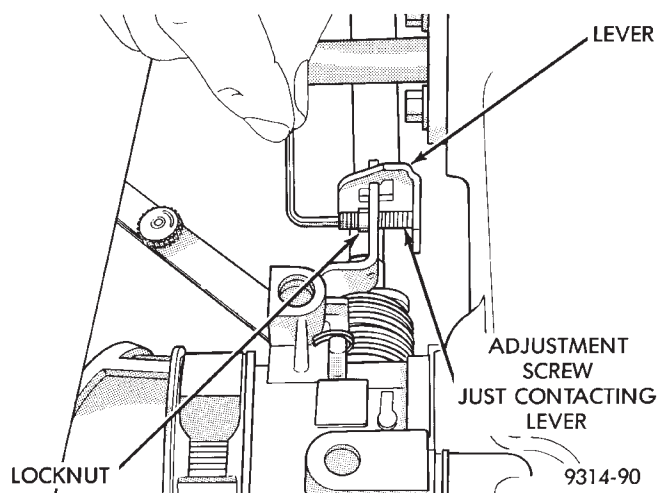
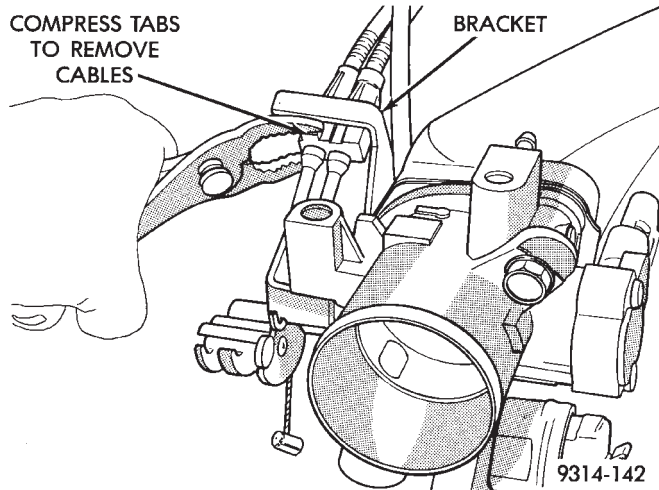

Fig. 12 Adjustment Screw
Fig. 13 Removing Throttle Cable and Speed Control Cable
Synchronize the throttle bodies if there is a gap between the adjustment screw and the linkage lever (Fig. 12 and Fig. 13). Also, synchronize the throttle bodies after removing and installing the throttle bodies.
(2) Loosen the adjustment screw locknut on the synchronization shaft (Fig. 12).
(1) Release fuel system pressure. Refer to Fuel System Pressure Release Procedure in this section.
(2) Disconnect negative cable from battery.
(3) Disconnect air plenum from air cleaner and throttle body.
(4) Hold throttle lever in wide-open position. Remove throttle cable and speed control cable from lever.
(5) Compress locking tabs on throttle cable and speed control cable and remove them from bracket (Fig. 13).